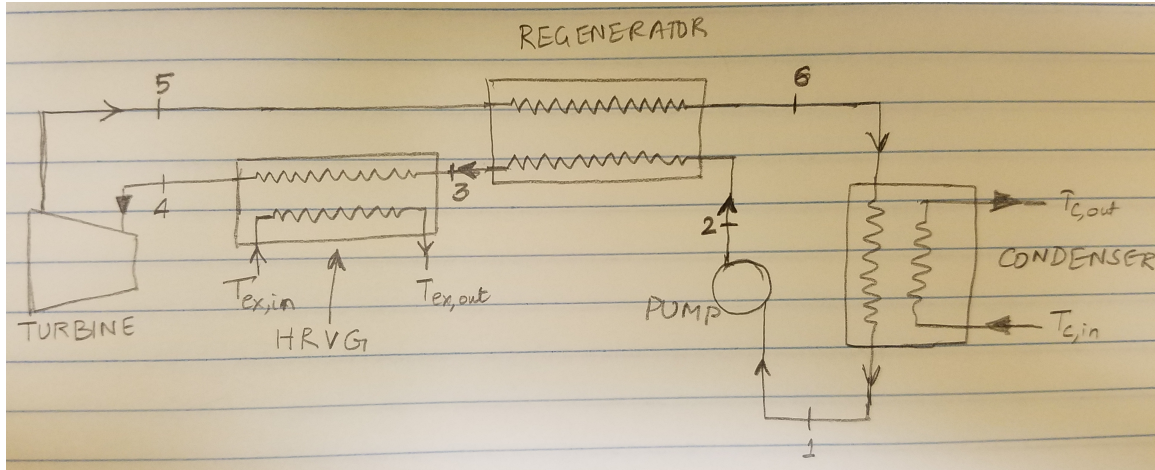

Figure 1: Layout of a simple S-CO₂ Rankine cycle. HVRG stands for *heat recovery vapor generator*.
Problem 2: The layout of a simple S-CO₂ Rankine cycle is shown in Fig. 1. Though it is called a Rankine cycle, there are similarities to the Brayton cycle too. For example, the use of the regenerator to pre-heat the working fluid before it enters the heat recovery vapor generator (HRVG). The word 'vapor' might be a misnomer because we're dealing with a supercritical cycle. Answer the following questions:
1. Assume that the high and low pressures are 23 MPa and 6.6 MPa respectively. The exit from the condenser can be assumed to be saturated liquid. The exit from the HRVG is at 750 K. Turbine and pump can be assumed to be isentropic. The regenerator efficiency is 0.9. Mark the states 1-6 from Fig. 1 on a $T - s$ diagram.